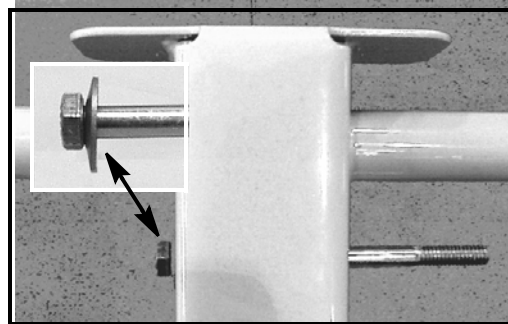

FIGURE 5
12. Align the holes in the upper handle with the holes in the lower handle tube assembly. From the right hand side of the upper handle, insert the bell washer/screw subassembly through upper and lower handles to pin the upper handle to the lower handle tube assembly. See Figure 5.